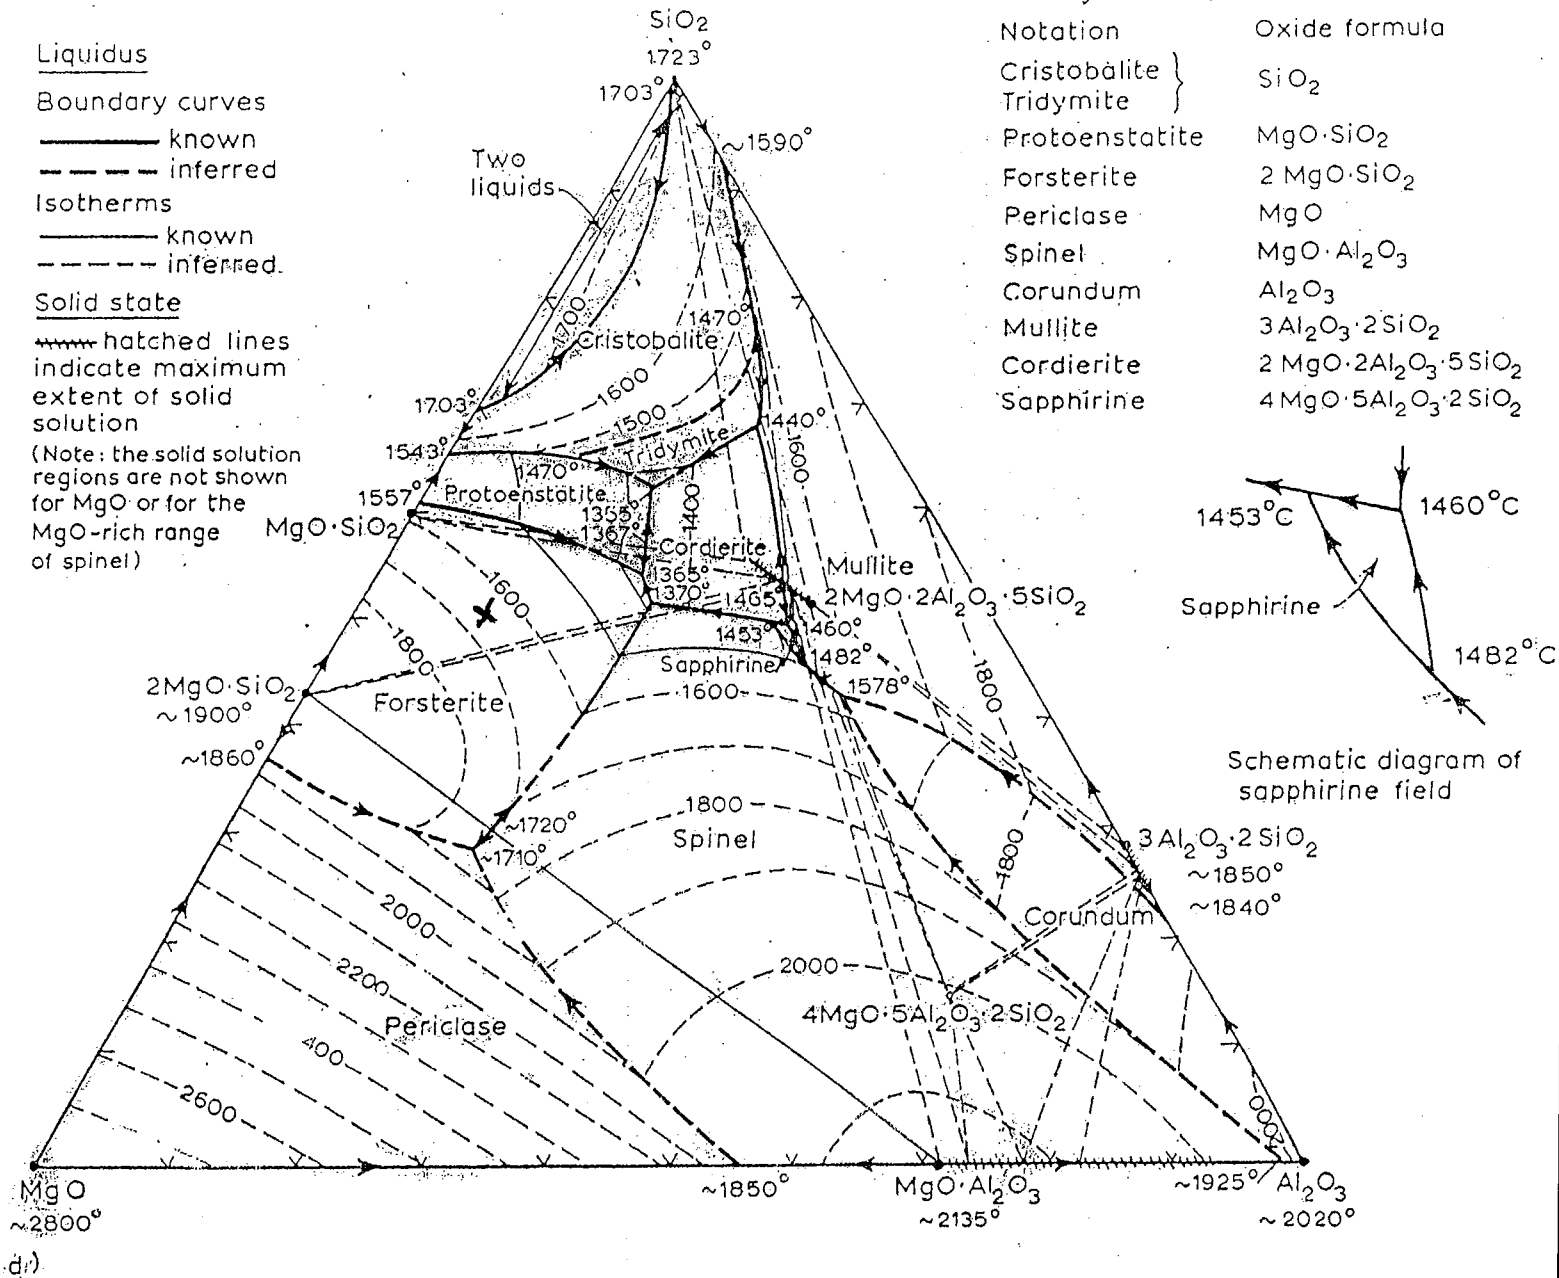

Figure 1
1. [a] *Figure 1 is a ternary phase diagram for a MgO-Al₂O₃-SiO₂ system. Describe the cooling of a melt X by noting the following:*